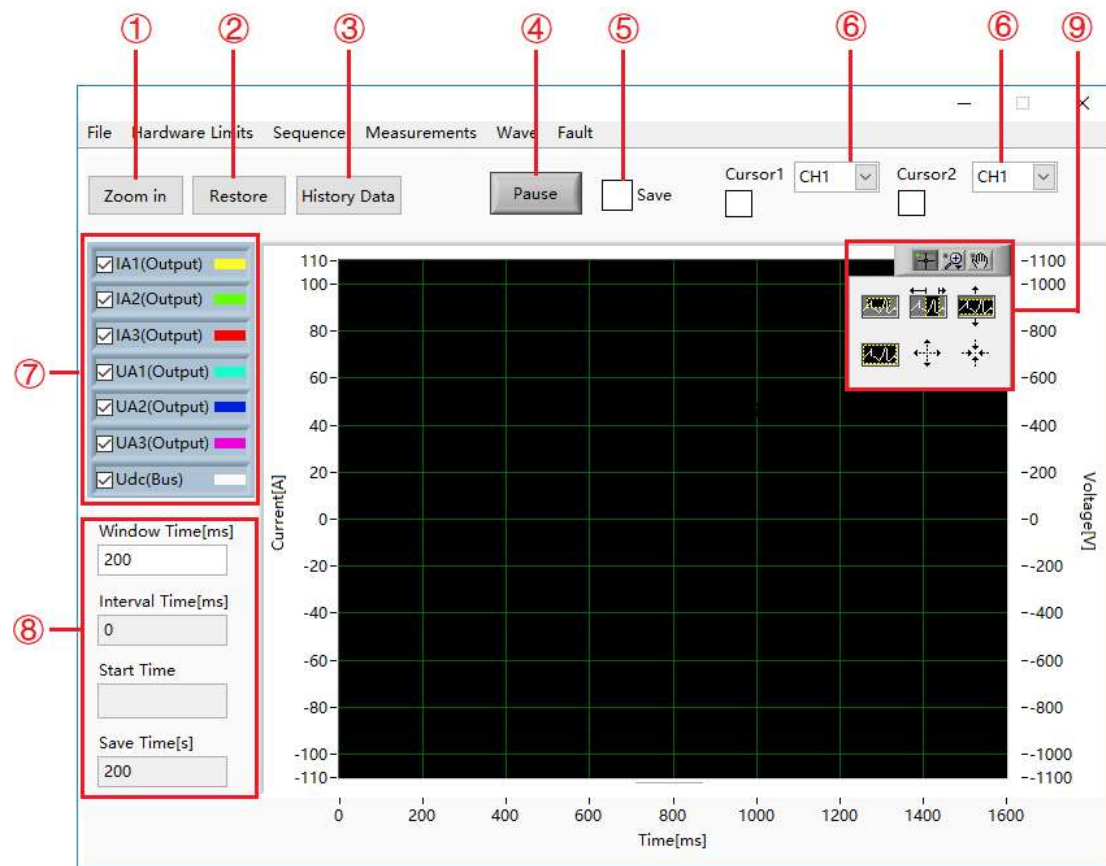

Figure 5-24 Waveform Panel
Click "waveform" to enter the panel (Figure 5-24). In the window of waveform browsing, the user can individually or simultaneously select the data of output voltage or output current (Figure 5-24⑦) and browse the waveform. In addition, the user can also set the window display time of the waveform data points, and observe the sampling time interval, start time, saved time and other parameters (Figure 5-24⑧).